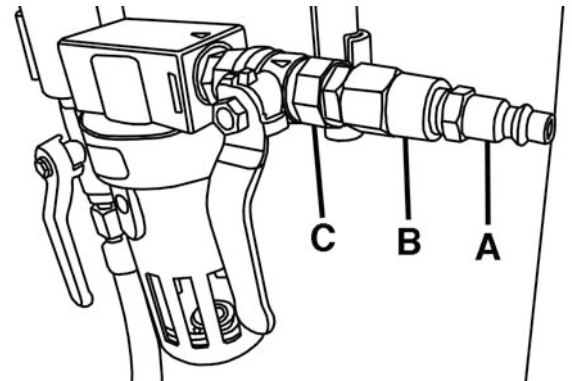

Figure 5
The male quick connect (A) Fig.5 must be installed to the intermediate connector (B) and then both must be installed to the air pressure valve (C).